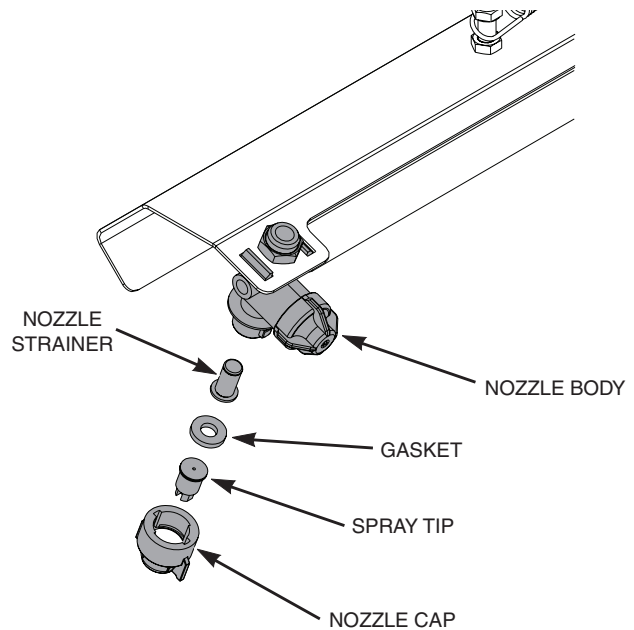

Figure 6-8. Removing the Nozzle
1. Rotate the nozzle cap 90 degrees counterclockwise to remove from the nozzle body. See Figure 6-8.